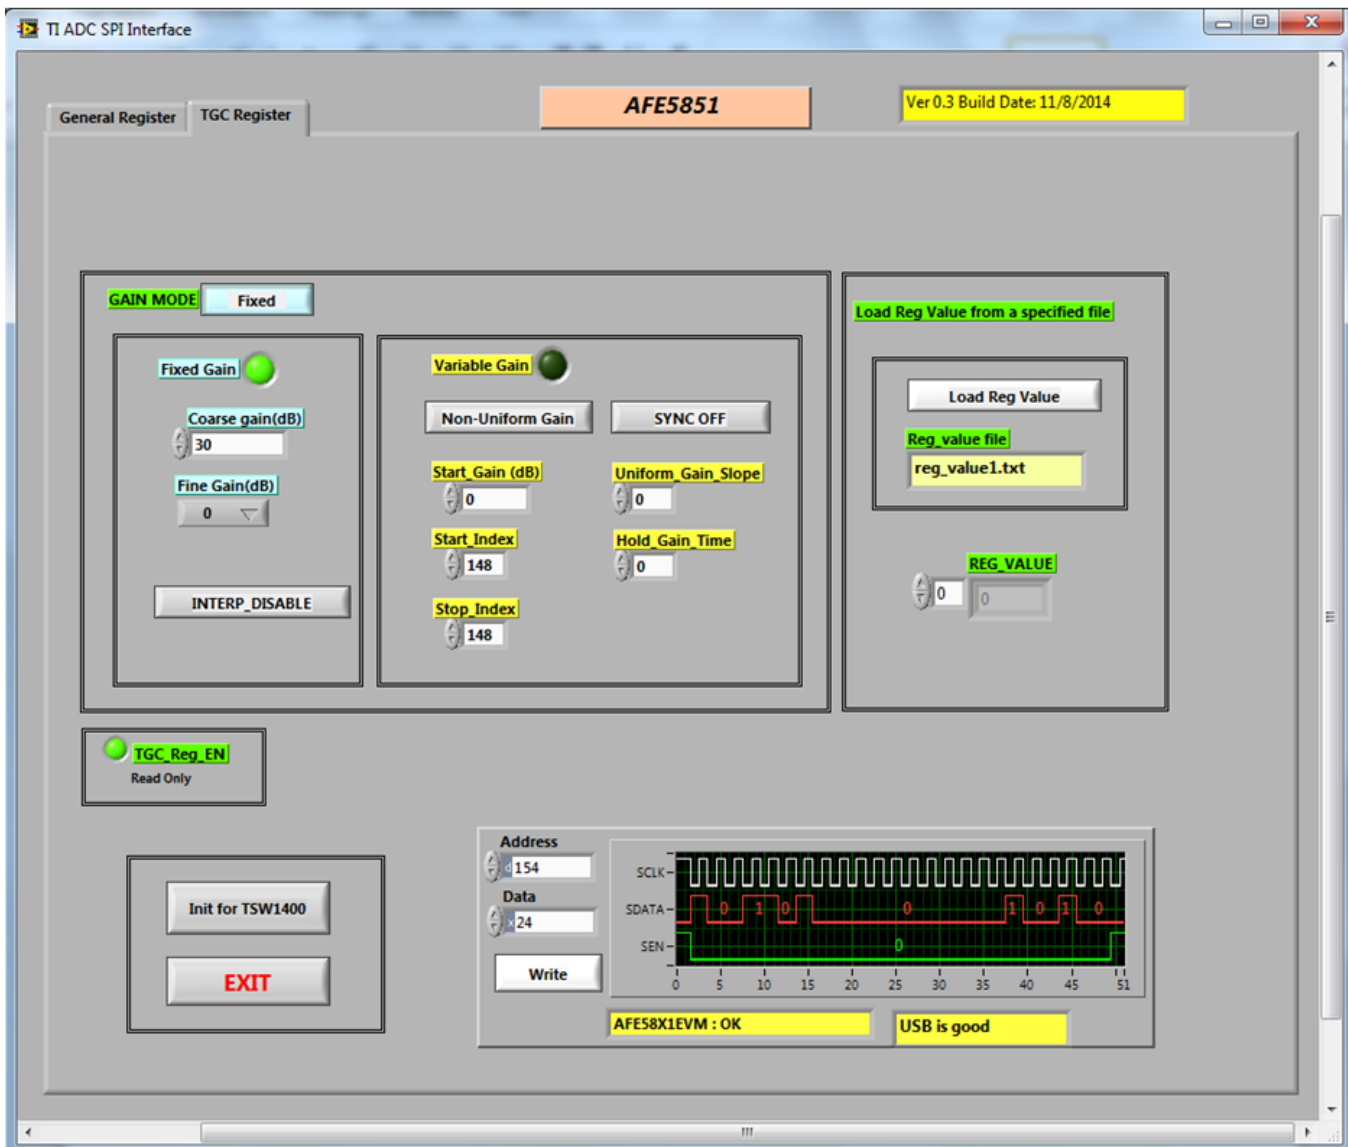

Figure 8. AFE5851EVM USB SPI Fixed Gain Mode
- From Figure 8 enter 30 in the "Coarse Gain(dB)" field, then press "Write" button.